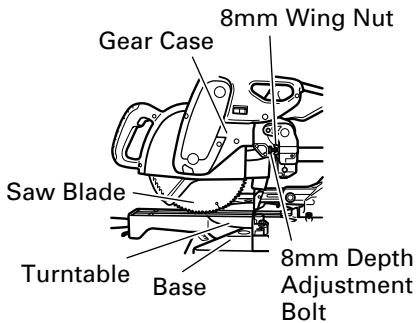

Fig. 10-a
Check that the saw blade can be lowered to 12mm to 13mm (15/32" to 1/2") below the table insert as shown in Fig. 10-a.
To adjust the lower limit position of the saw blade, follow the procedures (1) to (4) indicated below. (Fig. 10-b)
**NOTE:** When cutting a workpiece exceeding 88mm (3-15/32") in height in right-angle cutting or 56mm (2-7/32") in left bevel angle cutting or 31mm (1-7/32") in right bevel angle cutting, adjust the lower limit position so that the base of the motor head (see Fig. 10-a) will not come in contact with the workpiece.
To adjust the lower limit position of the saw blade, follow the procedures (1) to (3) shown in Fig. 10-a.
(1) Loosen the 8mm wing nut so that the 8mm depth adjustment bolt can be turned by hand.
(2) Lower the motor head, and thrun the 8mm depth adjustment bolt by hand and make adjustments so that there can be a clearance of 2mm to 3mm (3/32" to 1/8") between the lower limit position of the motor head and the top of the workpiece at the saw blade's lower limit position (where the head of the 8mm depth adjustment bolt contacts the gear case.
(3) After adjustment, turn the 8mm wing nut until it contacts the Hinge (see Fig. 10-b), and fully tighten it.